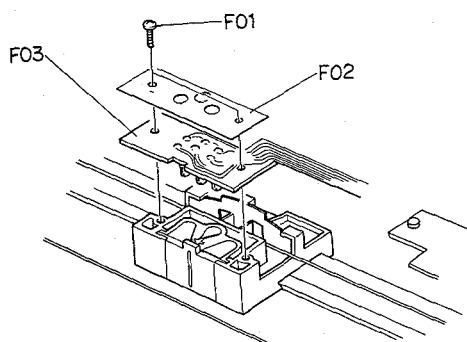

Fig. 3.5
Refer to Fig. 3.5. Remove Front Panel Ass'y referring to items 3.1 – 3.3.